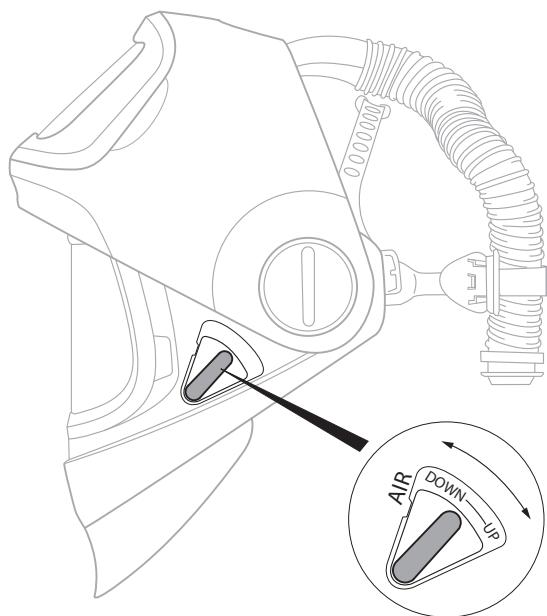

Fig. 8a
- a. To adjust airflow from bottom to top, lift the outer welding shield into the raised (open) position. Locate the UP – DOWN lever on the left side of the welding helmet. Adjust it to the desired position for incoming airflow (Fig. 8a). The adjustment drives a set of gears in the top of the welding helmet that runs air to different channels.